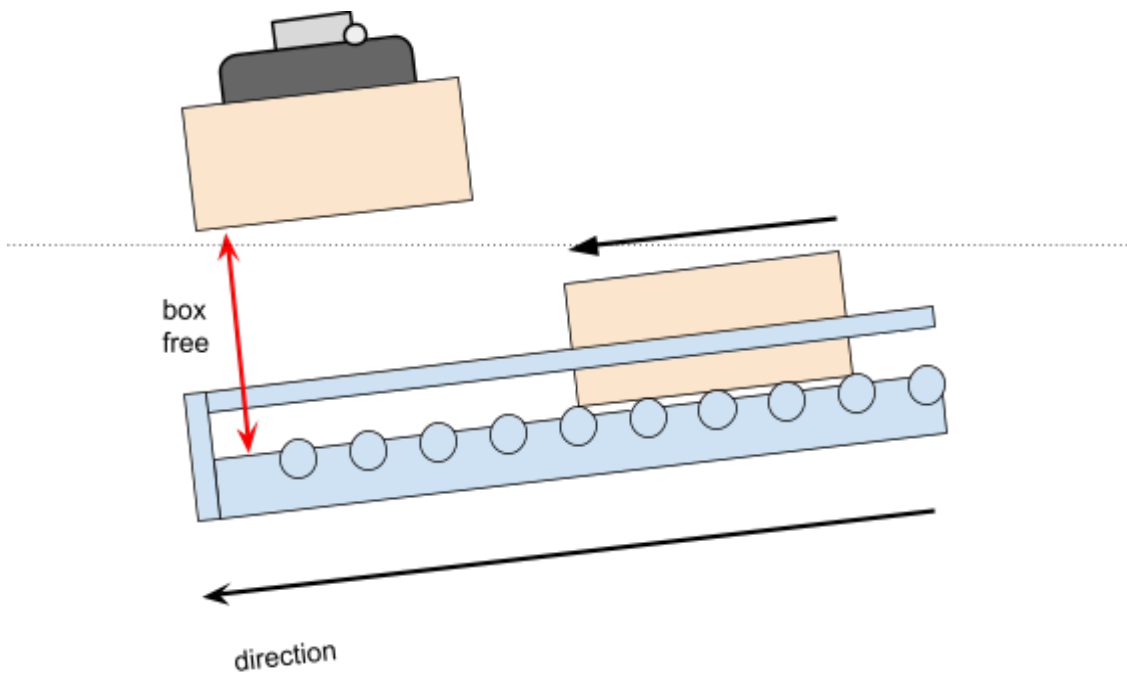

Figure 75: Choose a box free distance that is big enough to move the box above the others.
- Choose *box_free* high enough to move the box freely above the next boxes, as shown on **figure 75**.
- Choose "box free" high enough to move the box freely above the next boxes (figure 75).